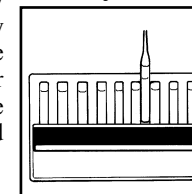

Figure 6
- b. Hold the high range comparator in a nearly horizontal position while standing directly beneath a bright source of light. Place the VACUette ampoule between the color standards moving it from left to right along the comparator until the best color match is found (fig 6).